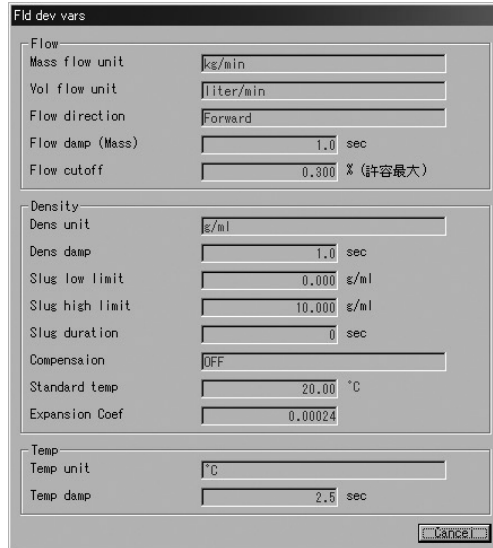

Fig.117
- ① Click on "Review (R)" at the top-level menu of the screen, and click on "Fld dev vars" again.
- ② A message box as shown in Fig. 117 appears. You can review transmitter variables (flowrate, density, and temperature related variables).